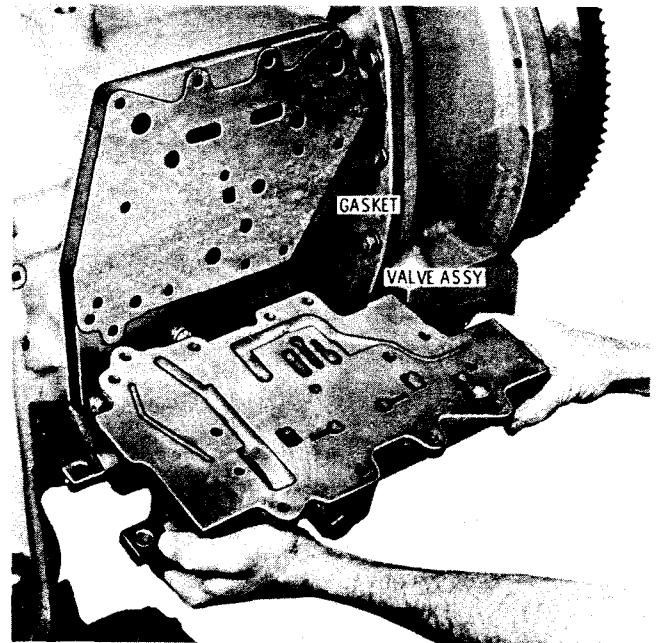

Fig. 7-55. Installing control valve assembly
(5) Install the gasket and control valve assembly onto the oil transfer plate (fig. 7-55). Retain the valve assembly with seven 3/8-16 x 2-inch, and five 3/8-16 x 3 3/8-inch bolts,